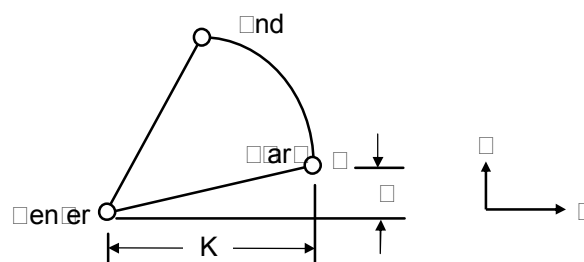

Fig. 3-8 Arc cutting
3. An arc comprises three elements, a start point, and end point and a center (See Fig. 3-8).
- a. The start point (S) is the tool coordinates when the G02 and G03 execute.
- b. The end point (E) is the coordinates of X (U) and Z (W) in the program format.
- c. The center (C) is defined by I and K values. They are the coordinate difference between the arc start point and center. This value can be either positive or negative. Definition of the I and k values are same as the increments (U, W). The arc feed-rate is defined by F-value.